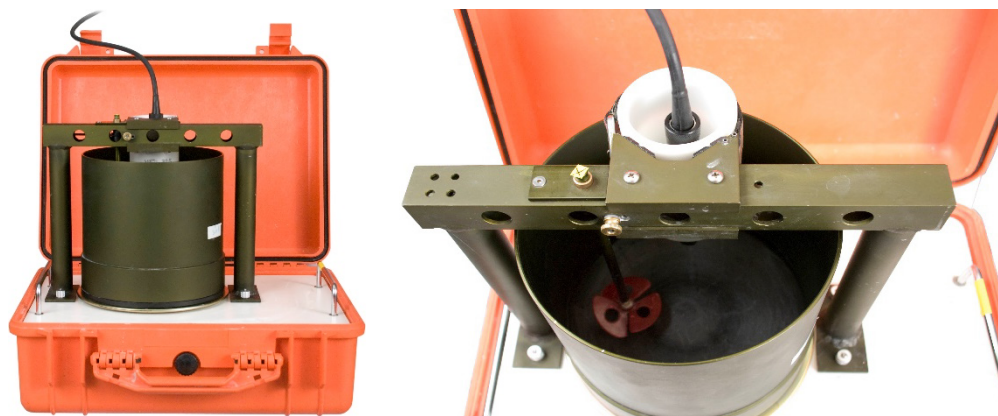

FIGURE 8-5. Portable Sediment Suspender
4. After measuring the clear-water signal (Step 1, Section 8.6.1, *Turbidity* (p. 24)), mount the OBS501 so that the sensor end is 50 mm above the bottom of the suspender tub and secure it in the position that minimizes reflections from the wall; see FIGURE 8-5.